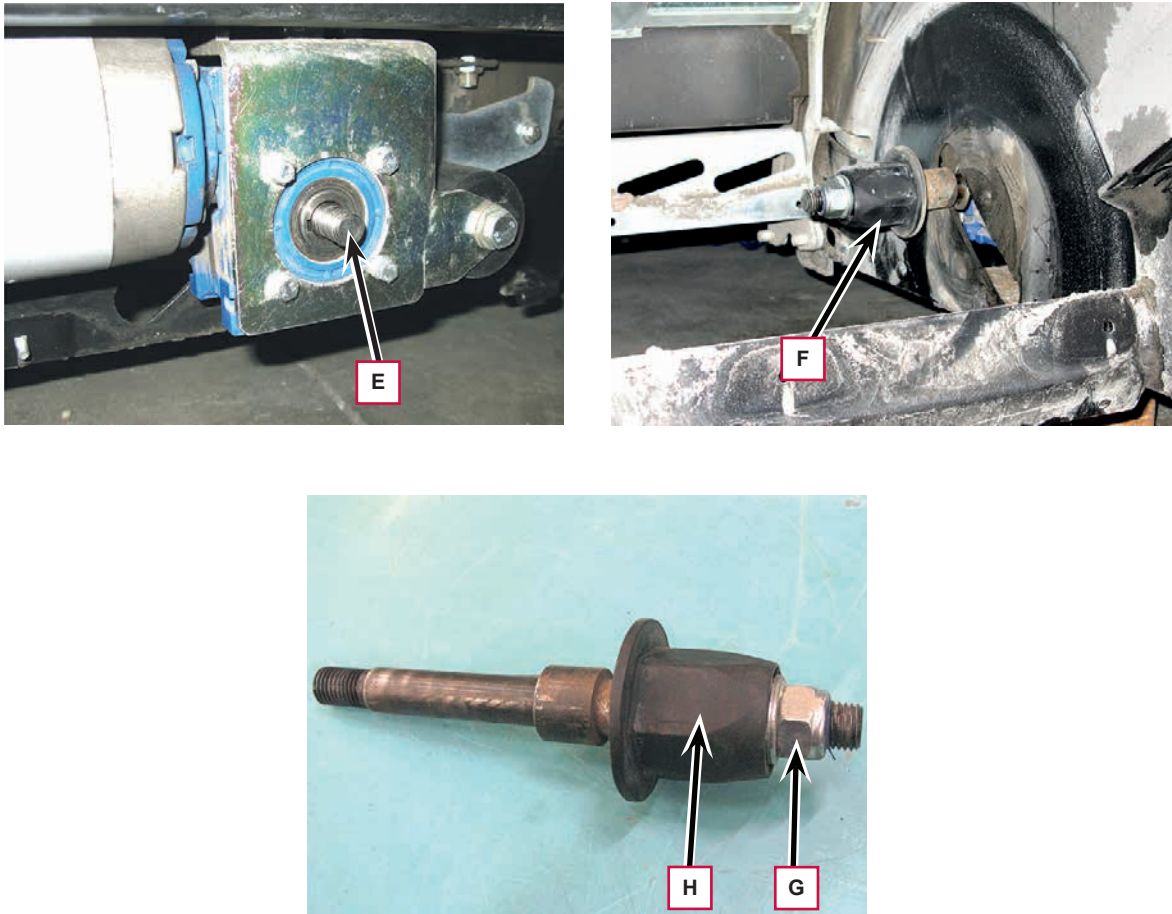

Figure 20
7. Use a rubber mallet to tap the threaded pin (E, Figure 20) inwards, then remove it from the side broom compartment, complete with the drive hub (F).
8. If necessary, unscrew the hub lock nut (G) on the workbench and extract the driver (H), detaching it from the shaft with two spanners.